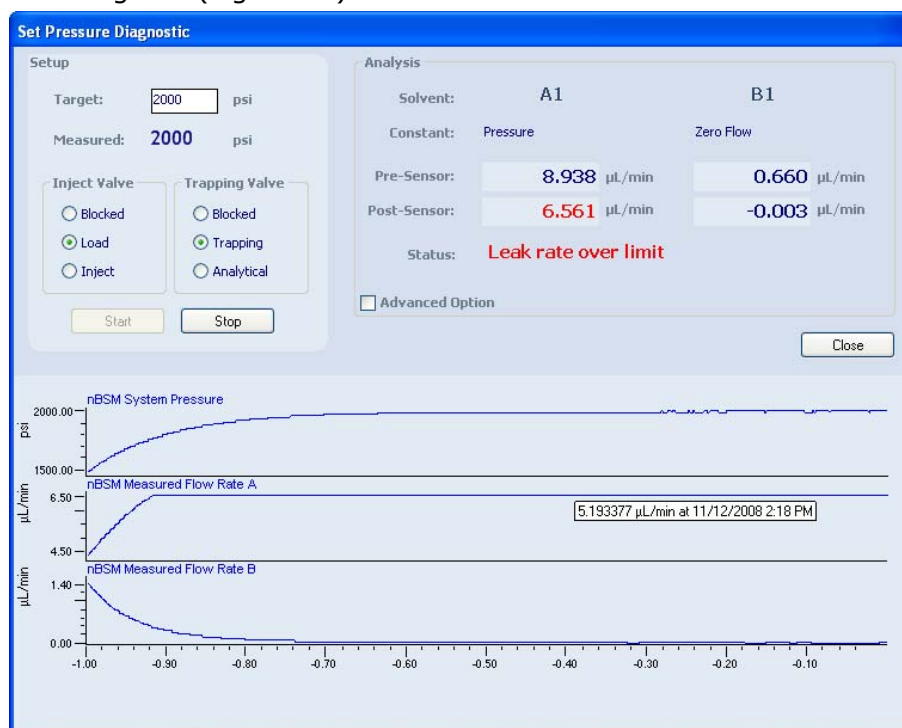

Figure 75 - Set Pressure Diagnostic dialog box
3. Click **Troubleshoot** > **Set Pressure Diagnostic**, to access the Set Pressure Diagnostic dialog box (Figure 75).